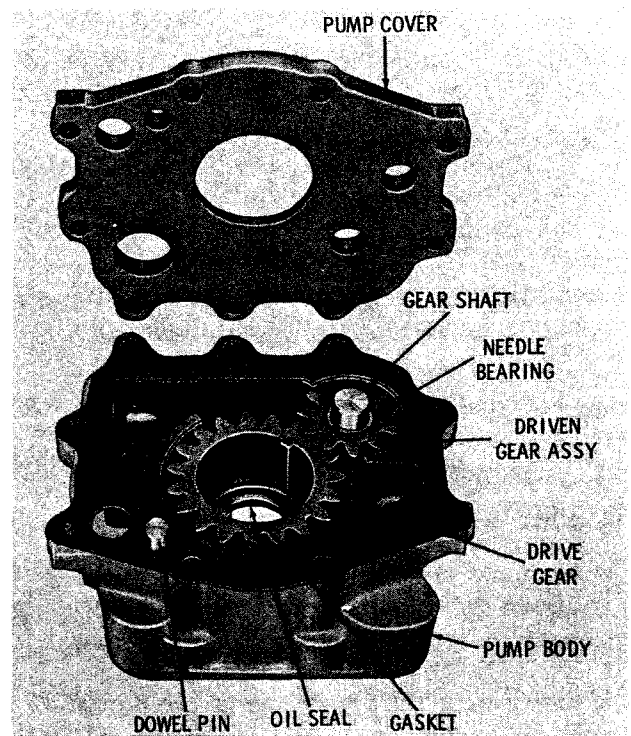

Fig. 6-31. Oil pump assembly
a. Disassembly (fig. 6-31)
(1) Remove the pump cover and cover gasket.
(2) Remove the drive gear and driven gear assembly.
(3) Inspect the needle bearings. If replacement is necessary, remove them from the driven gear.
b. Assembly (fig. 6-31)
(1) If the oil seal was removed, coat the outer circumference of the new seal with non-hardening sealer. Install the seal, spring-loaded lip first, into the rear of the pump body. Press the seal until it seats lightly on the shoulder in the body bore.
(2) If the dowel pin was removed, press a new pin into pump body. The pin is properly installed when it projects 0.41 to 0.43 inch (1.04 to 1.09 mm) above the front surface of the pump body.
(3) If the needle bearings were removed from the driven gear, install new bearings so that the replacer tool rests against the part number end of bearing race. Press each bearing flush with, to 0.020 inch (0.50 mm) below, the end surface of the driven gear.
(4) Install the driven gear assembly over the gear shaft and into the pump body. Also install the drive gear into the pump body.